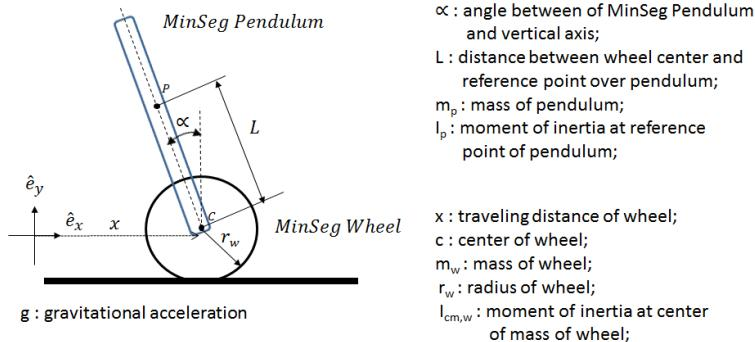

Figure 2 Mathematical model of MinSeg around the zero-equilibrium system.
Figure 2 depicts the motion of a MinSeg over the flat ground. In HW1, the equation of motion is given as (1).
- Step 2** Measure the physical parameters of your MinSeg as shown in Figure 2. Find creative ways to measure the weight in grams (home kitchen scale, post office, grocery store, etc.). Create a table to list the values of your measurement in SI unit. Set reference values of (k_t , K_b , R) as $(k_t, K_b, R) = (0.3233 \text{ Nm/A}, 0.4953 \text{ Vs/rad}, 5.2628 \text{ ohms})$.